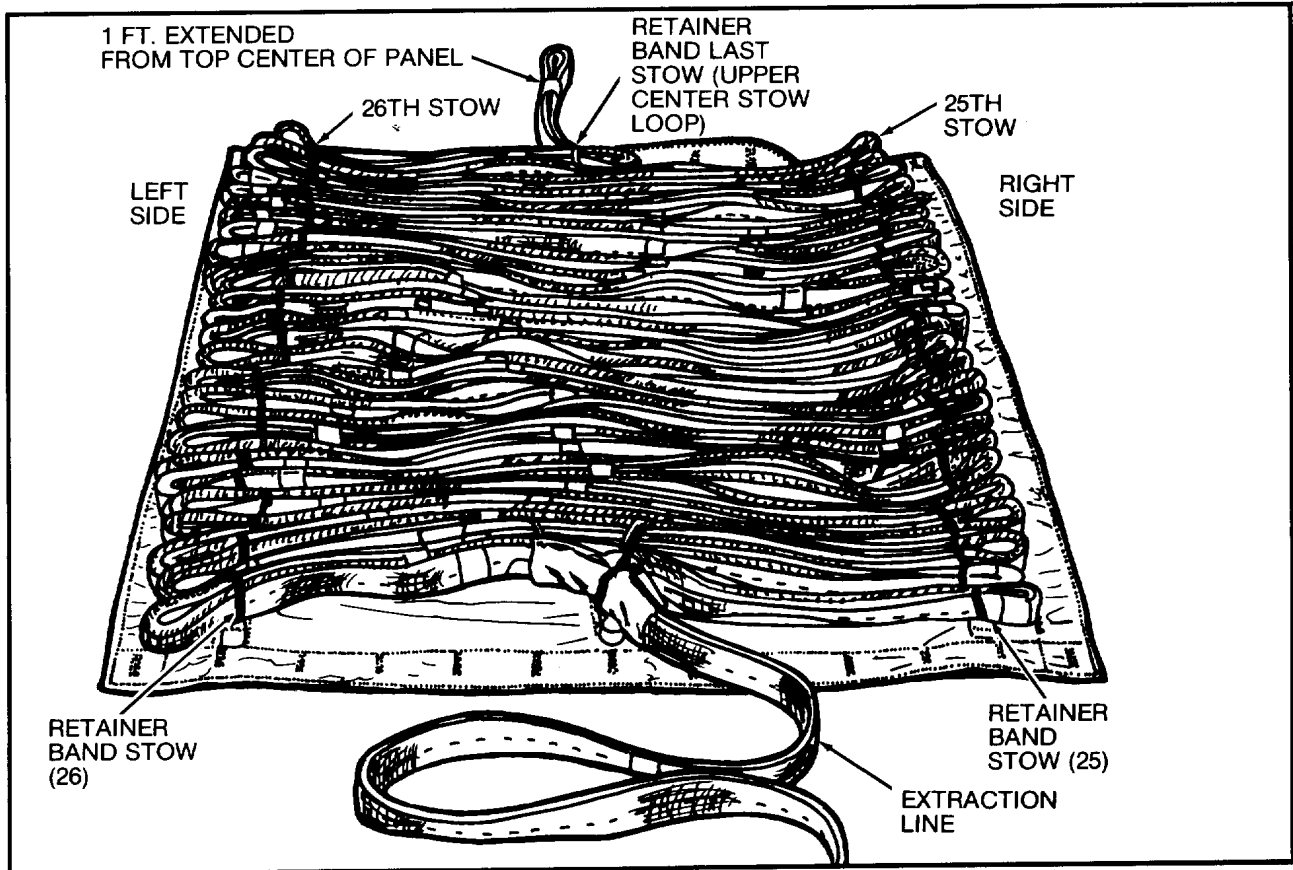

Figure 5. Extraction Line Stowed to Bottom Panel.
- e. Working from left to right, stow and secure extraction line with approximately 1 foot extended from top center of panel (This is the parachute attaching end). Make and secure last stow to upper center stow loop with rubber retainer band (figure 5).